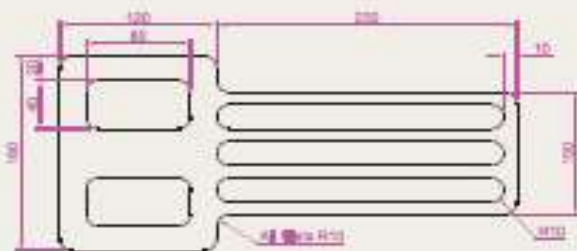

Fig. 5.46 Exercise 1
1. Construct the drawing given in Fig. 5.46. All parts are plines of width — 0.7 with corners filleted R10. The long strips have been constructed using **Circle**, **Polyline**, **Trim** and **Polyline Edit**. Construct one strip and then copy it using **Copy**.